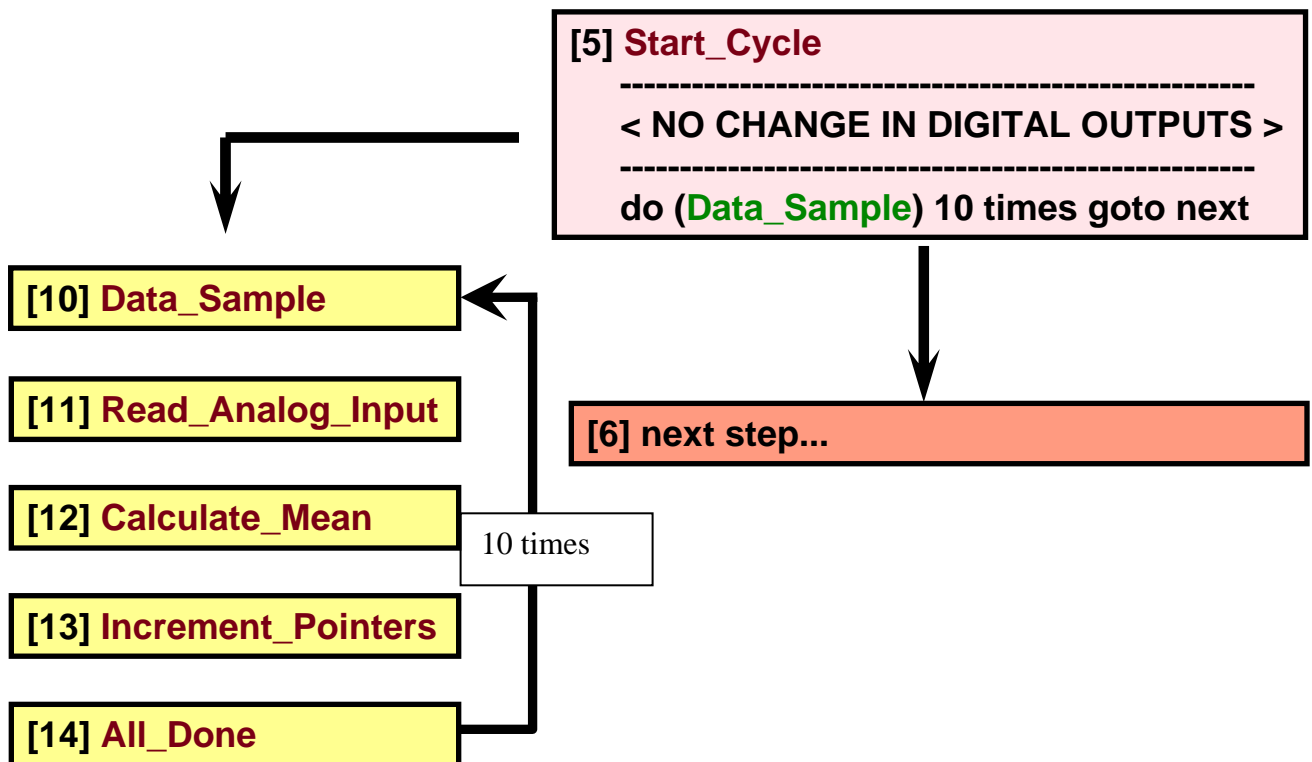

Figure 3: Flow chart using the Do statement to run just one task multiple times.
- 8) If you program a task to run multiple times it will continue to start over until it sees the Done statement the specified amount of times. See example in Figure 3.